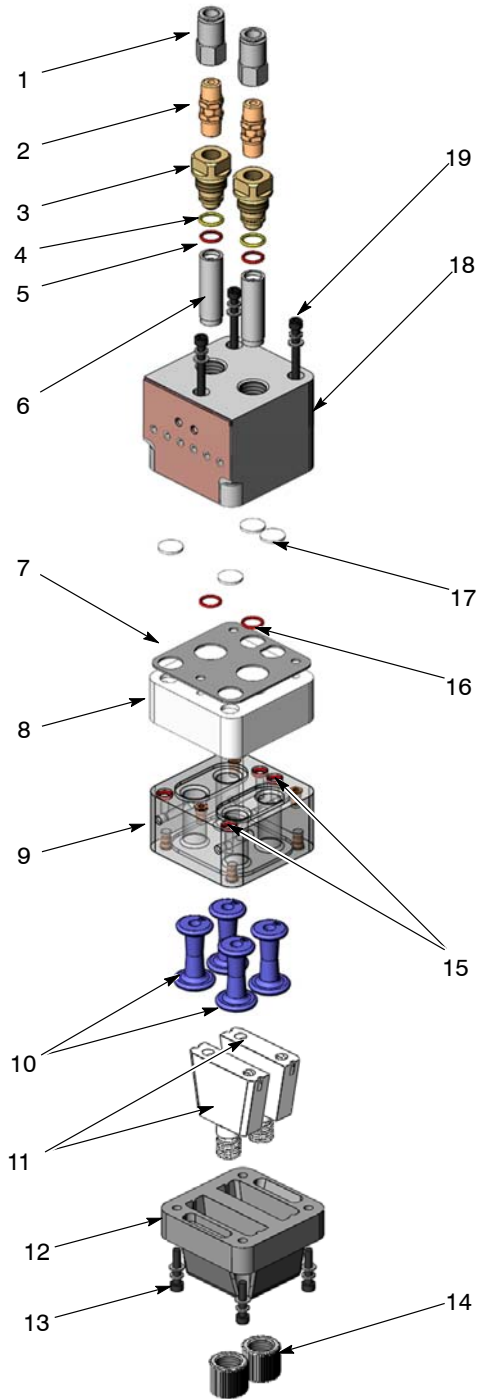

Figure 10 Pump Disassembly
4. See Figure 10. Starting with the fluidizing tubes, disassemble the pump as shown.